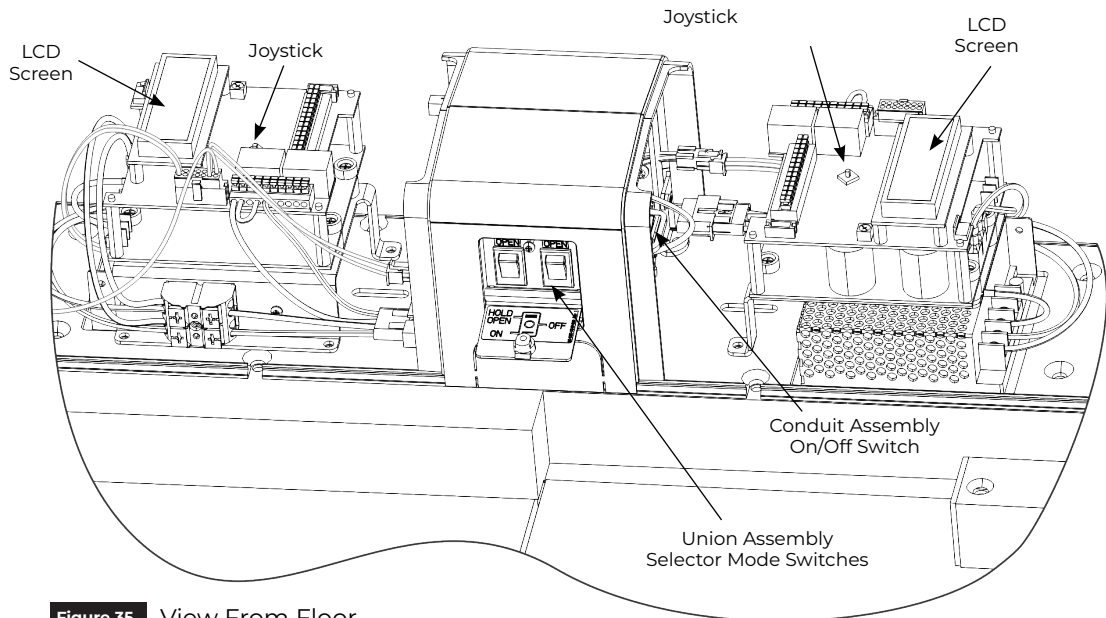

Figure 35 View From Floor
1. Remove #4-40 Phillips screw to open door on union assembly and place each selector mode switch in 'OFF' position. (Figure 35)
2. Turn On/Off switch to 'OFF' position on conduit assembly. (Figure 35)
- To scroll through menu items, push up or down on joystick. (Figure 35)